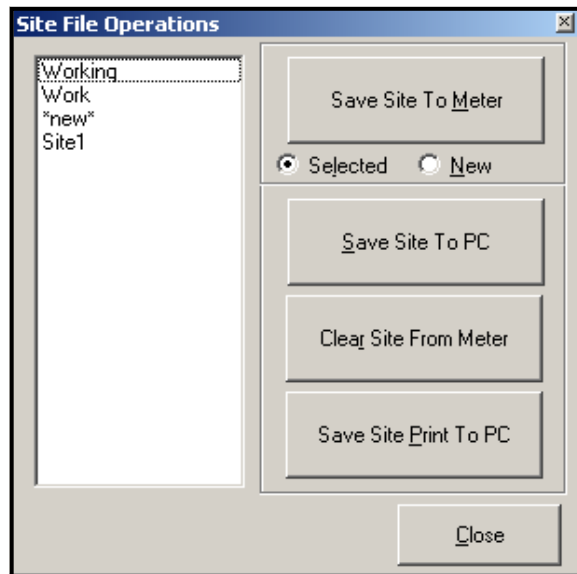

Figure 30: The *Site File Operations* Window
To access site files, click on the *Site Files* button in the *Properties* window. The *Site File Operations* window (shown in Figure 30 below) opens.
1. Highlight the desired site in the left pane. (See *Figure 30 on page 100*.)
1. Highlight the site in the left pane. (See *Figure 30 on page 100*.)